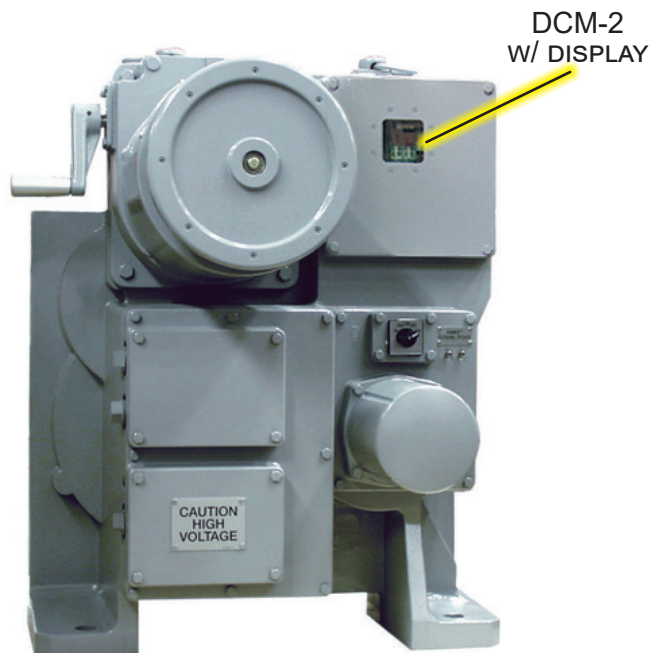

Figure 1
The DCM-2 is located in the DCM Compartment (see Figure 1, at right, for identification). To remove the DCM Compartment cover, loosen the (4) captive 5/16-18 hex mounting screws.